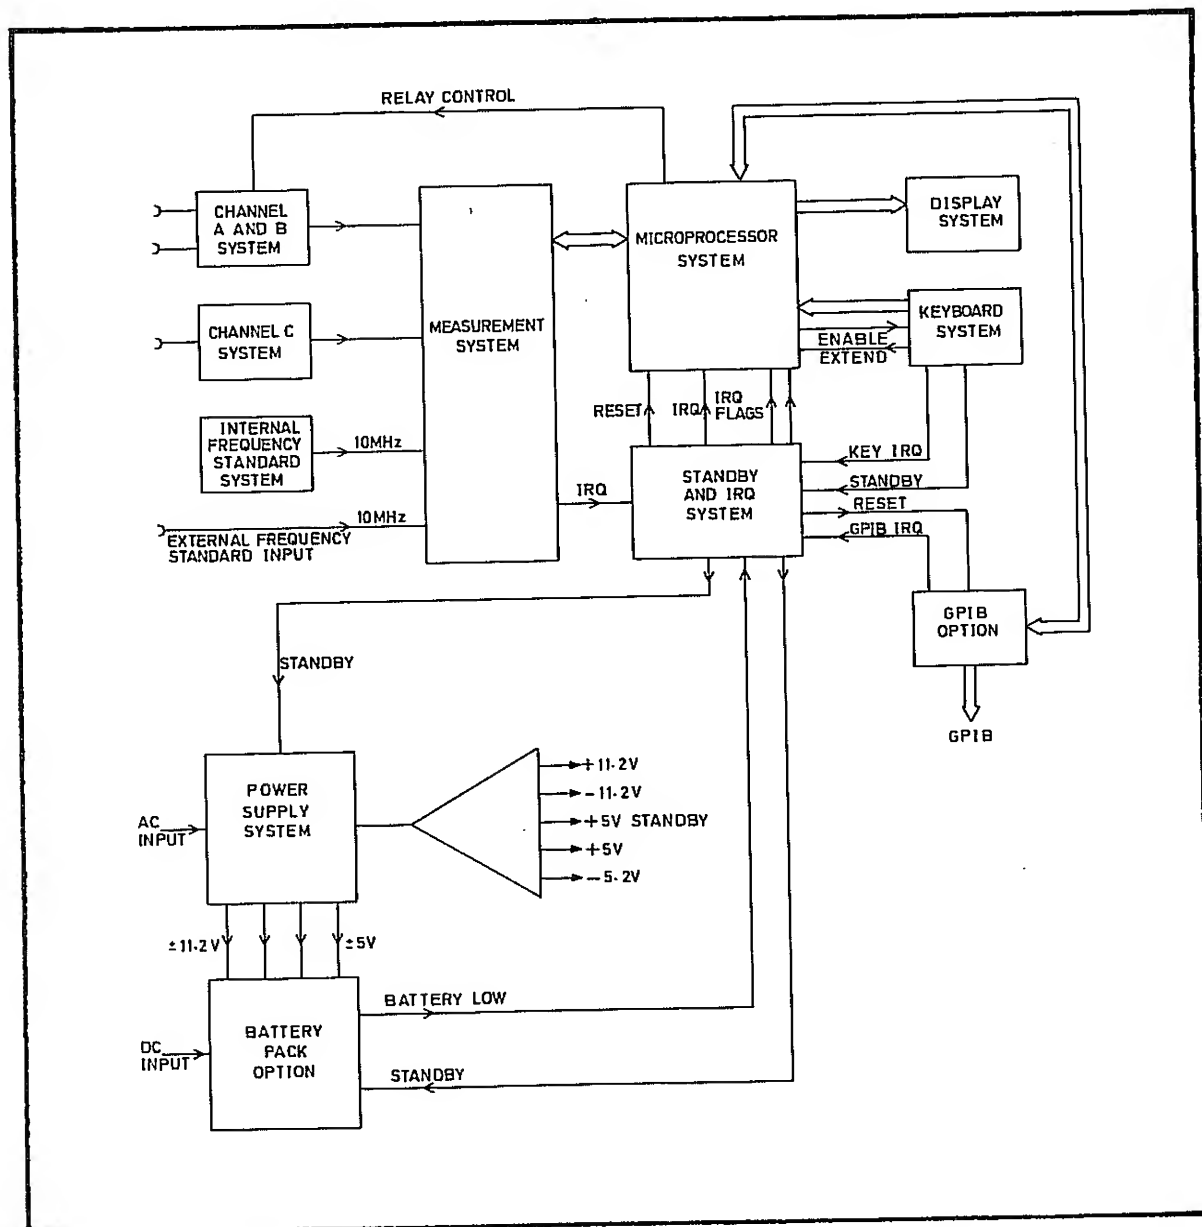

Fig 6.1 Functional Block Diagram
- (1) The channel A and channel B system.
- (2) The channel C system (1992 only).
- (3) The measurement system.
- (4) The display system.
- (5) The keyboard system.
- (6) The microprocessor system.
- (7) The standby and IRQ system.
- (8) The power supply system.
- (9) The internal frequency standard system.
- 4 The functional relationship between the systems is illustrated in Fig 6.1. The measurement system is internally configured by the microprocessor system according to the instructions entered via the keyboard or GPIB system. The signal to be measured and the signal from the frequency standard are fed to the measurement system. The measured result is passed to the microprocessor system. If mathematical manipulation of the result is required, this is performed by the microprocessor before the final output is passed to the display or GPIB system.